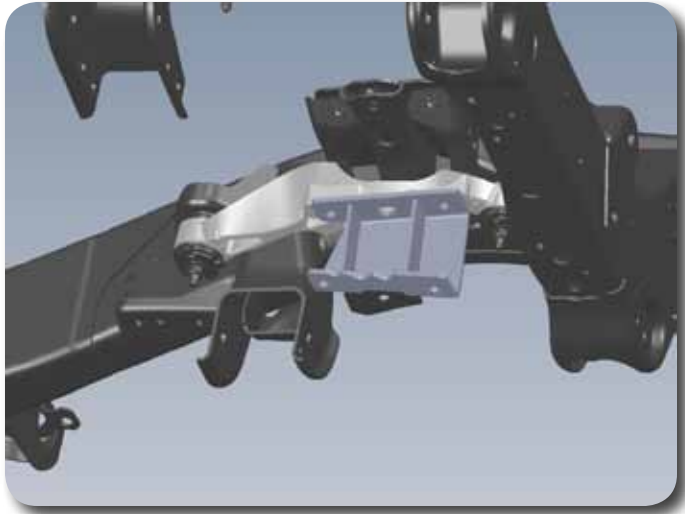

Figure 17
29. Install the new driver's side differential bracket to the original mount with the factory bolts **Figure 17**. The bracket surface with 3 holes in it goes to the OE mount and the open face points toward the inside of the vehicle. Torque bolts to 65 ft-lbs.